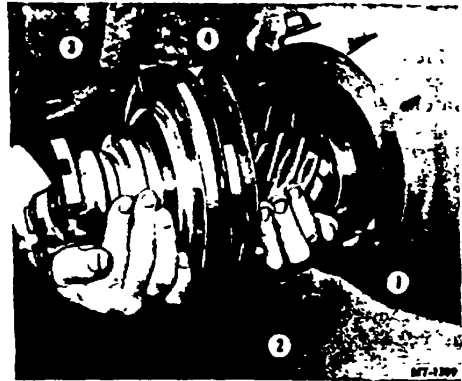

Fig. 5. Removing Pinion and Cage Assembly
14. Remove the pinion and cage assembly from the carrier (Fig. 5). Because of the weight of the pinion and cage assembly make sure that parts are secured safely while removing. Pinion and cage might be damaged if allowed to fall.